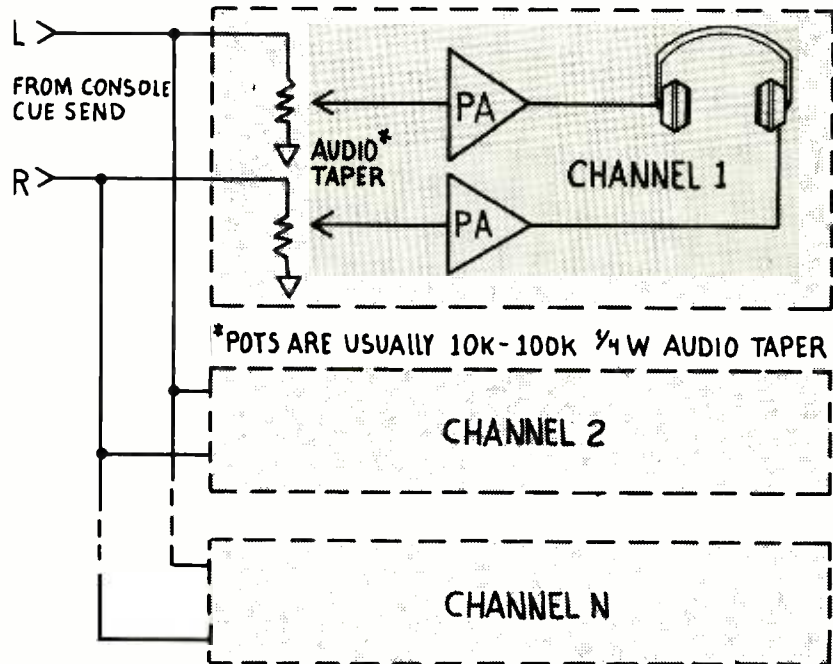
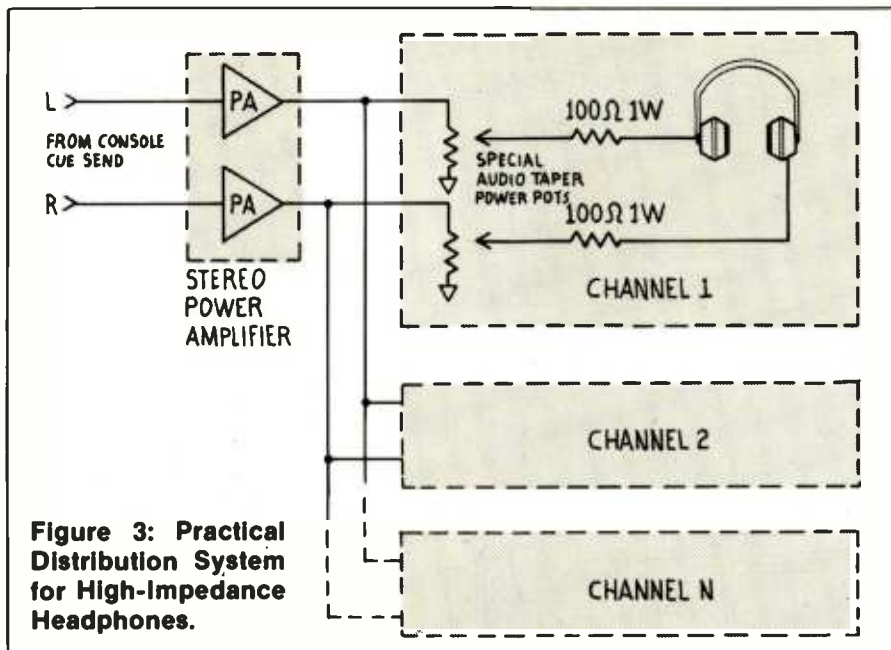
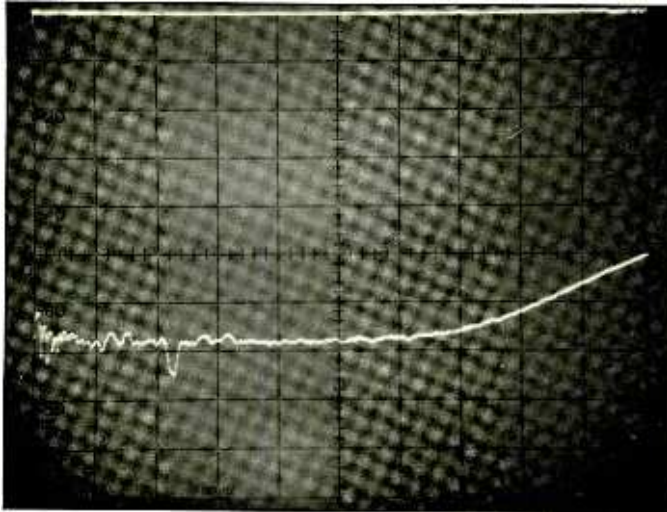

Figure 2: Block Diagram of Headphone Distribution System.
Figure 3: Practical Distribution System for High-Impedance Headphones.
Figure 3: Input impedance versus frequency for three different drive conditions.
Now let's take a look at an ideal distribution system for driving any impedance headphone. Figure 2 shows the block diagram. In this set up, a stereo line-level cue send from the console is fed through low-power audio taper pots (they can be one stereo or independent left and right controls), and then fed to a stereo power amp. While this is the most efficient and ideal approach, it is also the most expensive. The cost of separate power amps, power supply, volume controls etc, can start to add up if you wish to have separate control over many 'phones. It is very feasible, however, to build this exact system at a fairly reasonable price for low-Z headphones, especially with power amp modules that have a complete stereo PA in one package.
Even though the system shown in Figure 2 is ideal for both high- and low-impedance 'phones, it is really only practical for low-Z. Let's look at another example to see why. Assume we want to build a system that can deliver 1 watt maximum power to the headphones. For 8-ohm 'phones, using equations 1 and 2 we find we need 2.83 VRMS and 0.35 amps RMS.
Now look at the same situation for 600-ohm 'phones. From equations 1 and 2 for 1 watt, $V_{rms}=24.5$ volts, $I_{rms}=0.04$ amps, and using the equation for peak-to-peak voltage, $V_{p-p}=69.28$ volts. To really build the set-up as shown in figure 2, you would need a +35 volt power supply, and a power amp capable of swinging that much voltage, even though it need only source 0.04 amps. Although one-channel, high-voltage PA are available in one package, they are still expensive, and not as readily available as their low-voltage counterparts. There is a more practical solution for high-impedance headphones.
So we can now understand the more practical solution for hi-Z 'phones shown in Figure 3. Even though this circuit is not the ideal system shown in Figure 2, if it is built properly there are no real compromises. In this set up there is only one power amp that generally can handle more headphones than you could ever need. Note that the distribution system is passive which, unlike the low-Z active system, requires no AC power. Long headphone cable runs are not a concern in high-Z set ups, because the low current draw of high-impedance units makes them much less immune to cable IR voltage drops with which low-Z 'phones have to deal.
1) Use an active distribution system that has line-level inputs and individual driving amps, as shown in Figure 2. Find out what levels of voltage and current it can put out with all channels loaded to see if it will meet your power needs. Just because it is active doesn't necessarily mean it was built correctly.
How exceptional is illustrated by the spectrum analyzer 'scope photo of Figure 2. The scale factors are 10 dB per vertical division, while the horizontal scale is log frequency from 20 Hz to 43 kHz; the top trace is the tracking generator output at a -10 dBv level fed to the HI and LO signal inputs, tied together and referred to signal ground; and the lower trace is the signal appearing at the output of the Compellor with the device previously set to unity gain at 1 kHz, +4 dBv input. Common-mode rejection exceeds 60 dB for all frequencies to the left of the 10 kHz graticule line, and never gets near the claimed 40 dB at any frequency below the 43 kHz extreme of the sweep. Not at all bad.
One reason for this fine performance is shown in the input impedance data of Figure 3. There are three traces shown, providing device input impedance for three combinations of drive connection: pin #3 HI, pin #2 LO and grounded to pin #1 (normal mode); pin #3 open, pin #2 driven referred to pin #1, pin #2 open; and pin #3 driven
referred to pin #1. The unbalanced impedance holds constant at about 21 kohms below about 2 kHz, where it starts to rise to about 35 kohms at 50 kHz. The curves showing the magnitude of the impedance from either side of the input signal line to ground, labeled 1-2 and 1-3 in Figure 3, substantially overlay one another below about 10 kHz, as confirmed by Figure 2. Agreement between them, and therefore the degree of input circuit balance, is preserved exceeding the 1% imbalance (40 dB CMRR) claimed. Impedance phase curves have been overlaid here as they show the resistive nature of the input impedances below about 10 kHz, becoming somewhat inductive due to the input low-pass filter at higher frequencies. This is one of the best input circuits I have seen to date.
The variance in these observed impedance magnitudes from the values published by Apex has given me cause to recheck my figures using "quick-look" sinusoidal methods. Impedance magnitude figures obtained in that way closely approximate the results of the Fourier transform manipulations shown about the mid-band. Figures 3 and 4 are therefore confidently presented as typical of the device presented for examination.
Figure 2: Logarithmic 20 Hz to 43 kHz sweep showing common mode rejection. Top trace is the -10 dBv input signal, the bottom trace output for the common mode feed. Vertical scale: 10 dB per division.